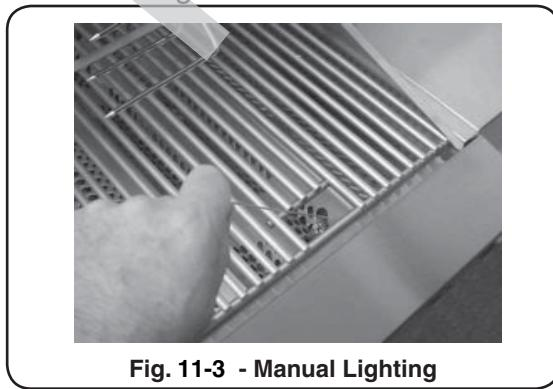

Fig. 11-3 - Manual Lighting
**REMEMBER:** FOR SAFE MANUAL LIGHTING, PLACE A BURNING MATCH OR BUTANE LIGHTER BESIDE THE BURNER - **THEN TURN ON THE GAS** (see Fig. 11-3).
2. Insert either a burning long-barrel butane lighter, a burning long-stem match, or a burning match held by a wire extension holder (Fig. 11-2) through the cooking grids to the burner. (Fig. 11-3). For backburners, hold the flame against the perforated material of the backburner. For sideburners, hold the flame against the burner.